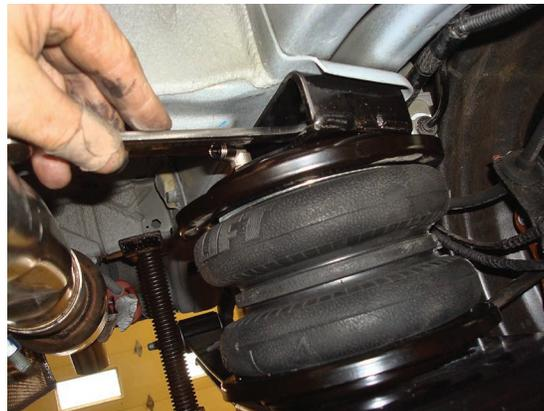

fig. D.12
- Push the top of the air spring assembly in and out to align the air spring perpendicular to the lower bracket, then torque the upper mounting to no more than 20 lb.-ft. (27 Nm) (Fig. D.12).